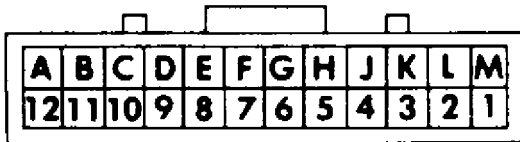

Fig. 4: Control Head Connector
4) Connect test lamp between control head terminal 1 and ground. If test lamp lights, check wire from control head terminal 12 and ground for open circuits. If background lights are not working, replace control head. See Fig. 4.